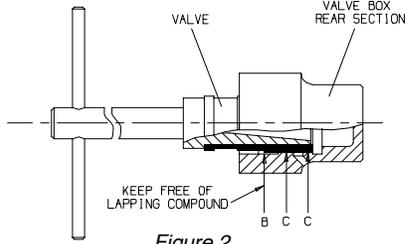

Figure 2
- b. Apply lapping compound to diameter "C" only; keep diameter "B" free of compound at all times. Insert the compound-coated end of the Valve into the rear section of the Valve Box as shown in Figure 2 and lap until a free fit is obtained.